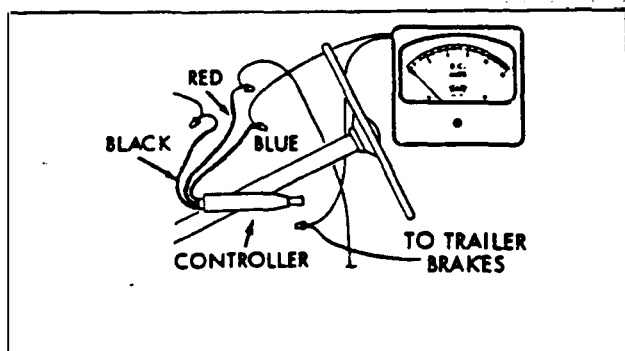

Fig 1.
B. Connect ammeter as shown in Figure 1.